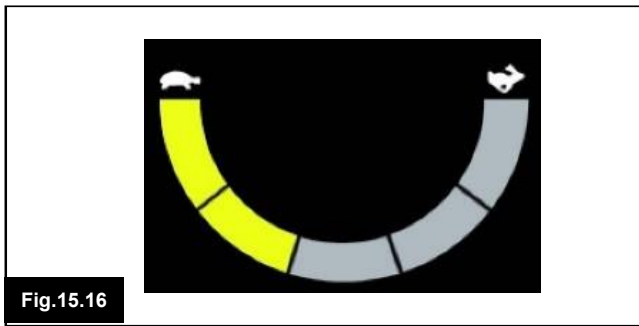

Fig.15.16
15.5.1.4 Max Speed Indicator (Fig 15.16)